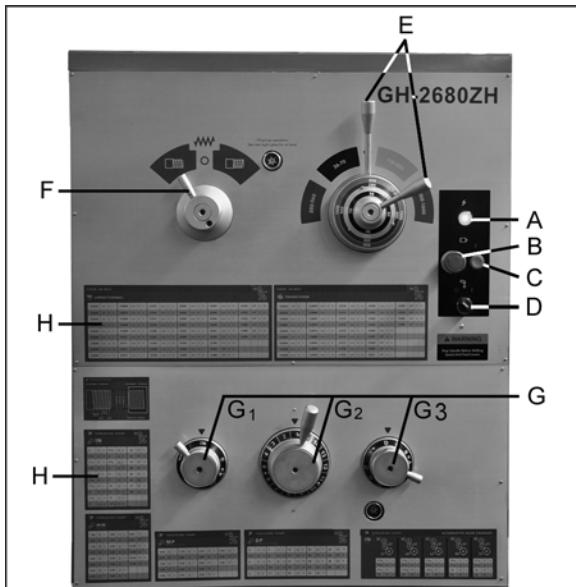

Figure 22 – Headstock Controls
- Power Indicator Light (A, Figure 22).** Illuminates whenever lathe is receiving power.
- Emergency Stop Button (B, Figure 22 and 23).** Shuts down all machine functions.
- ON Button (C, Figure 22 and 23).** Activates motor.
- Coolant On-Off Switch (D, Figure 22).** Activates coolant pump.
- Speed Selection Levers (E, Figure 22):** Located on front of headstock. Move levers left or right to desired spindle speed, according to accompanying chart on the dial.
- Feed Direction Lever (F, Figure 22):** Located on front of headstock. Moving the lever changes direction of feed. Center position is neutral.
- Thread Pitch and Feed Selector Levers (G, Figure 22):** Located on front of headstock, are used conjunctively to set up for threading or feeding, according to the accompanying chart (H).